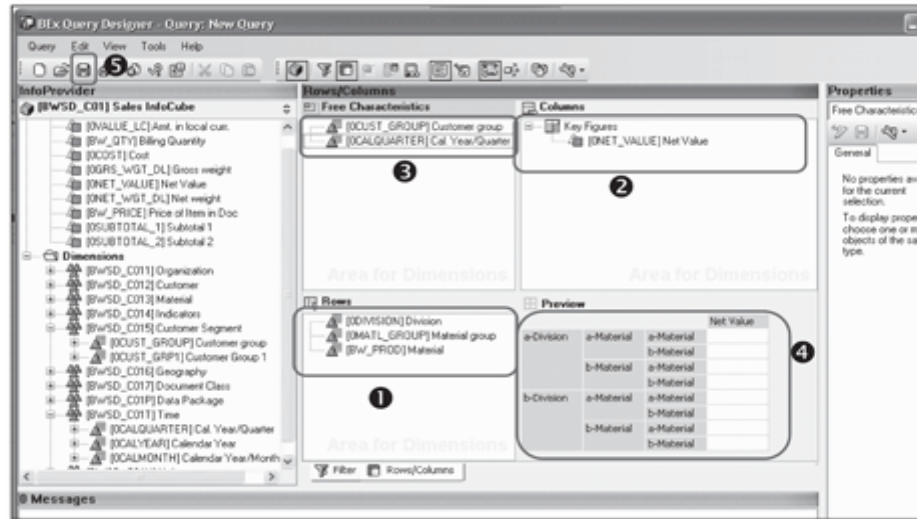

Figure 9.13 Define Rows, Columns, and Free Characteristics
Based on our example requirements, the report (the query output) should show the data by division, material group, and material, so these characteristics should be dragged into the rows section (❶ of Figure 9.13). The sales value should be displayed as a column, so drag the key figure Net Value (ONET_VALUE) to the Columns area (❷).